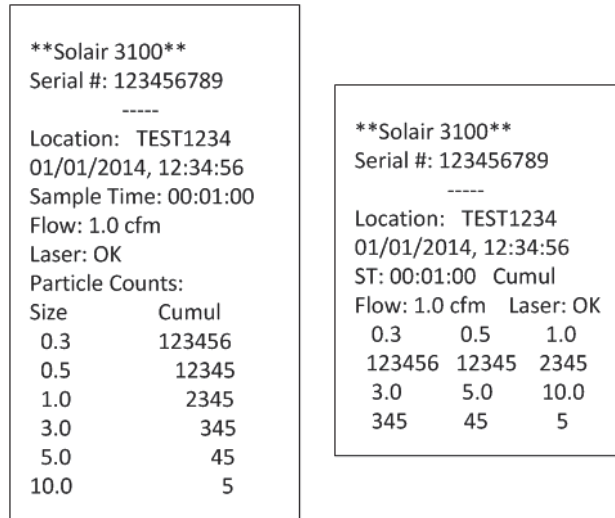

Figure 6-62 Portrait and Landscape Print Examples
- **PORTR** - Prints the report in portrait mode. See Figure 6-62.
- **LANDSC** - Prints the report in landscape mode. See Figure 6-62.